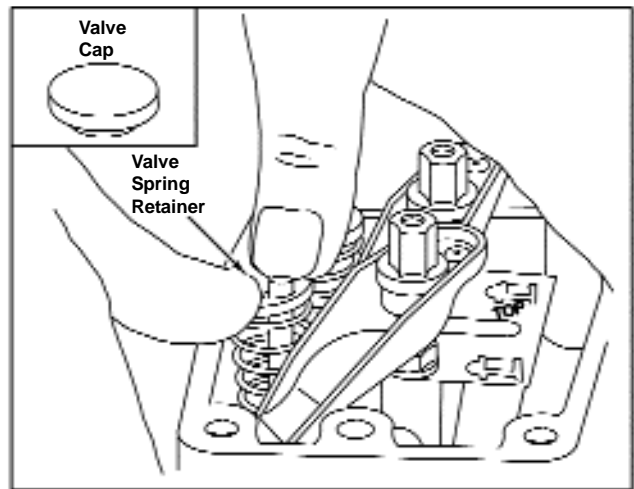

Figure 94 - Installing Rocker Balls and Screws, Typical
2. Place retainer on spring and with thumbs on retainer, press on retainer to compress spring, Figure 94.